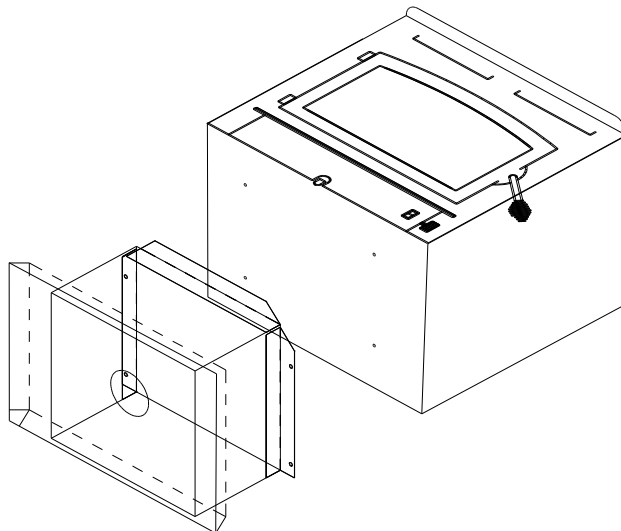

Figure 4
6. If pedestal kit is being used, open the corresponding freestanding kit and obtain the stand. Place the stand against the bottom of the heater (angle side to heater) at the marked line. Center the stand left and right and mark screw locations on bottom through outer holes of stand mounting angles. Set stand aside and drill four $\frac{7}{32}$ " holes in heater bottom. (See Figure 4.)